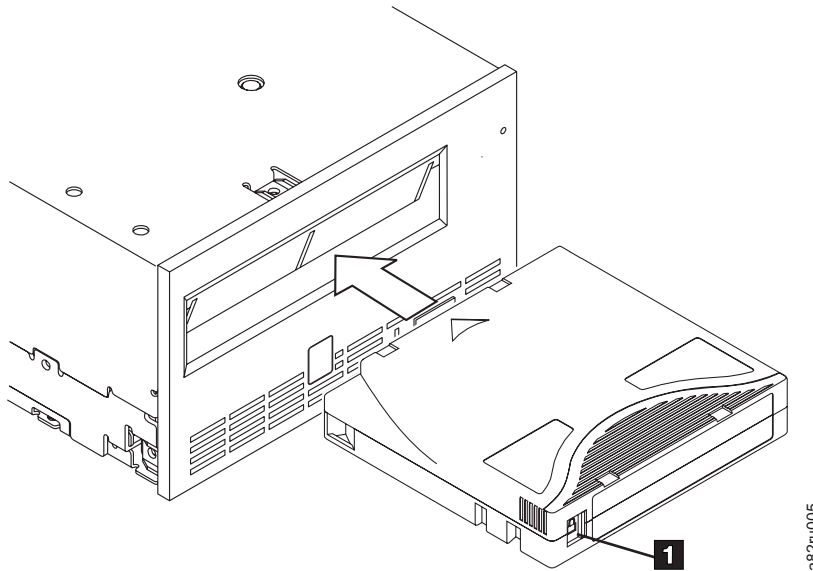

Figure 3-1. Inserting a cartridge into the drive
3. Grasp the cartridge so that the write-protect switch faces you (see **1** in Figure 3-1 on page 3-5).
With each drive, a specially labeled IBM LTO Ultrium Cleaning Cartridge is supplied to clean the drive head. The drive itself determines when a head needs to be cleaned. It alerts you by displaying  on the Single-character Display. To clean the head, insert the cleaning cartridge into the tape load compartment (see Figure 3-1 on page 3-5). The drive performs the cleaning automatically. When the cleaning is finished, the drive ejects the cartridge.